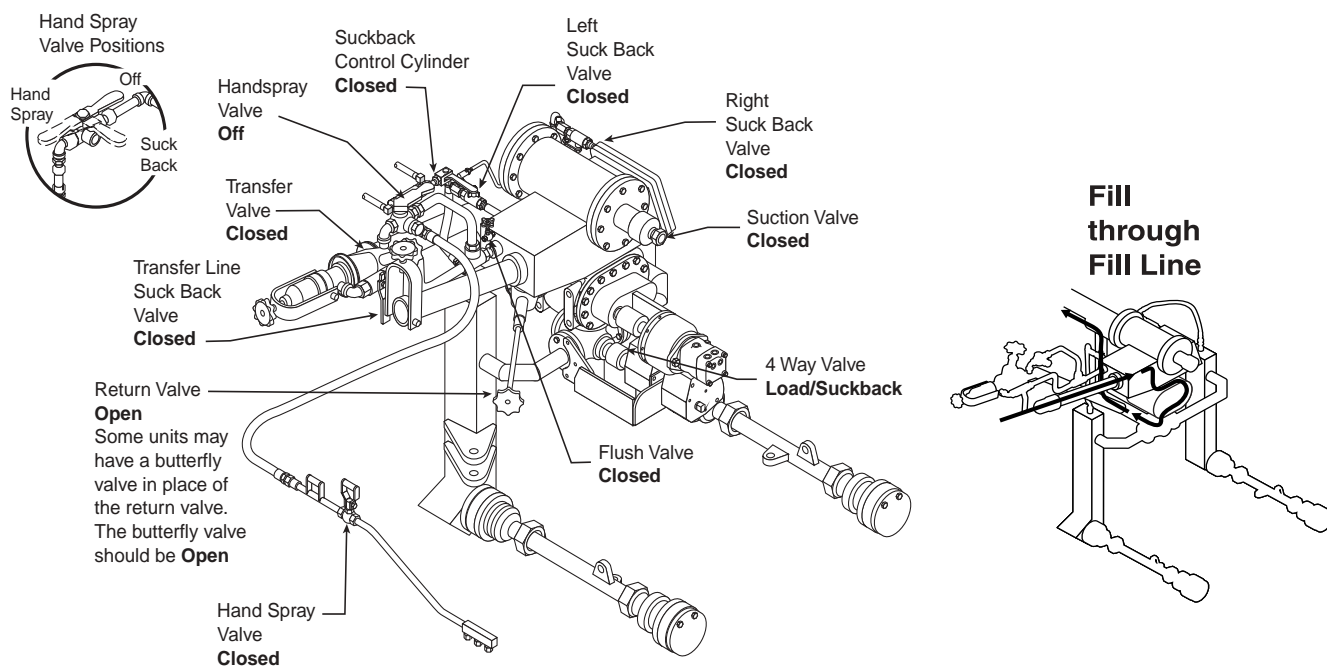

Figure 2. Valve Positions for Filling Through the Fill Line
1. Set all of the valve positions first. (See Fig 2)